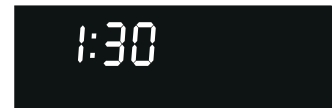

Figure 2
1. Press and hold **Lock** for three seconds. A beep will sound. The "DOOR LOCKED" will continue to flash until the oven door has completely unlocked and the lock icon light () will clear (See Fig. 2).